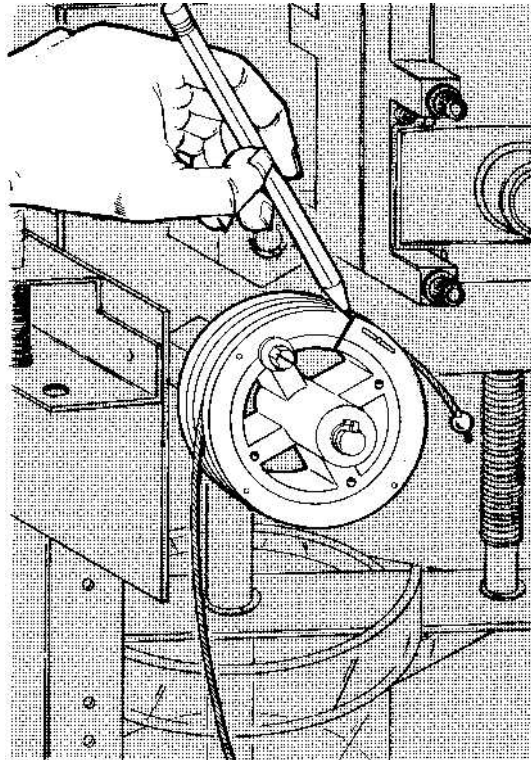

FIGURE 611
- I) With Pencil, draw a line between the inner and outer section of the cable spool to provide a reference mark (see Figure 611).